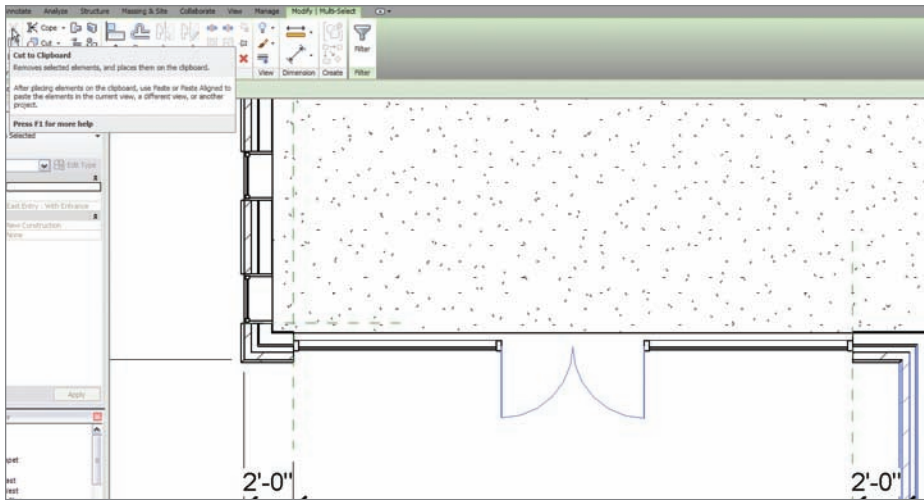

FIGURE 21.25 Cutting the curtain wall out of the host wall
13. Select the curtain wall to the left of the entry, as shown in Figure 21.25.
14. Click the Cut to Clipboard button, as shown in Figure 21.25.